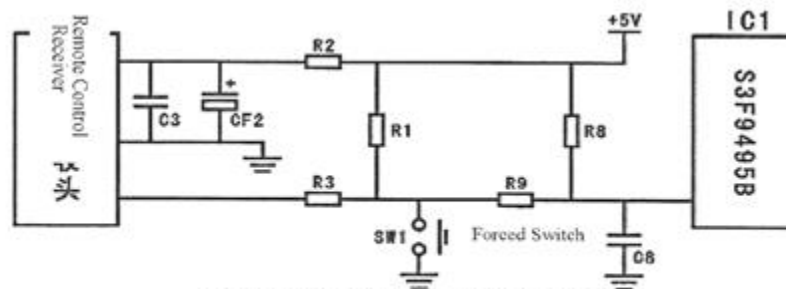

Fig. 8-1: Remote Control Receiving Circuit
3. Infrared receiving circuit is functioned to transmit the information from user's remote controller through infrared tube, and carry out corresponding actions through process analysis, as indicated in fig. 8-1
4. Forced operation circuit is mainly composed of a button switch, current limiting resistor, etc. when pressing the button switch, single chip will be given a +5V flip-flop signal. The button switch (SB) here, also known as 'emergency switch', is functioned to start air conditioning system when there is no remote controller or remote controller is out of work, as indicated in SW1 in fig 8-1.